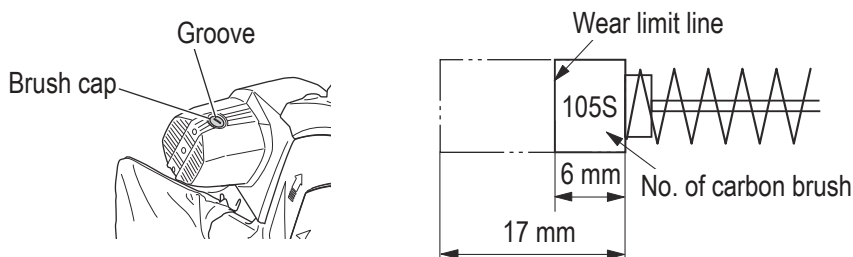

Fig. 36
3. Inspecting the carbon brushes (**Fig. 36**)
4. Replacing a carbon brushes (**Fig. 36**)